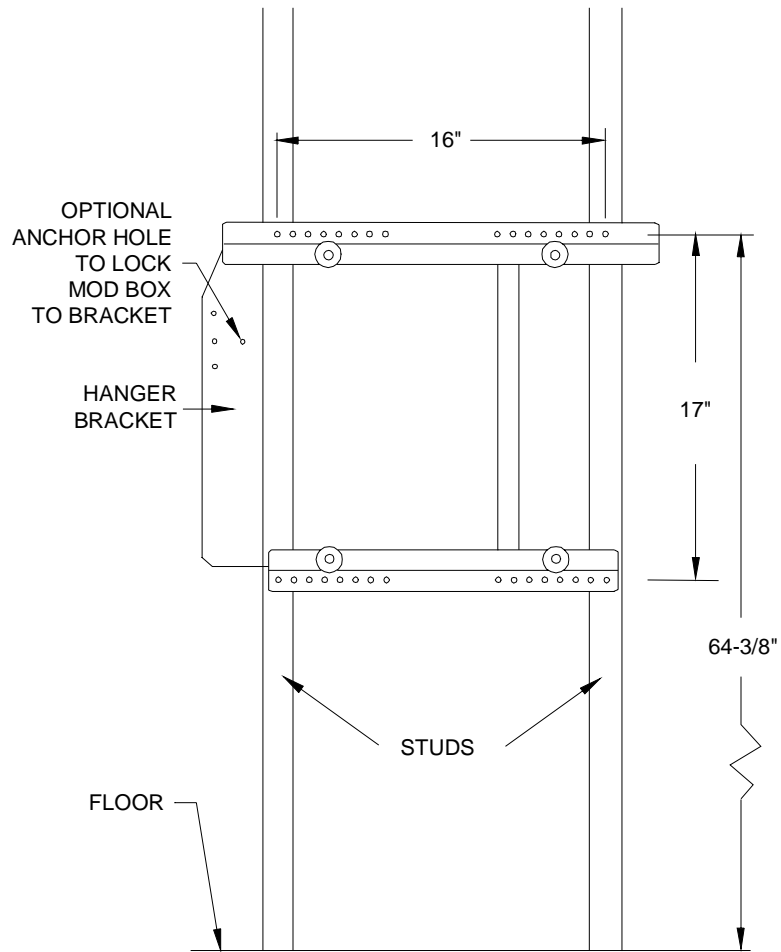

FIGURE 1-1 - INSTALLING THE HANGER BRACKET
1. **PREFERRED METHOD*:** At the installation location, use a level to mark a horizontal line that is exactly 64-3/8" (163.5 CM) off the floor. This will place the bottom of the MoD BoX at the recommended 38" (965 cm) above the floor. Refer to Figure 1-1.
3. Locate the wall stud locations on the horizontal lines. Drill 5/32" holes at the marks. Place the hanger against the wall and secure using the (4) 1/4" x 1-1/2" lag screws supplied.